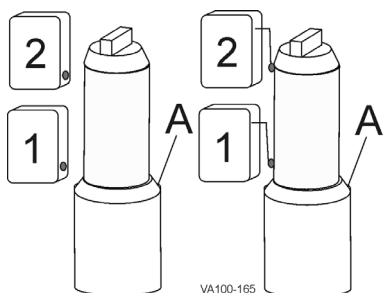

Figure 17 - Valve Closed Adjustment
4. Lower the stem to close the valve and adjust the target of the lower switch to slightly above the stem shoulder (Figure 17). Tighten the cap screws securely.